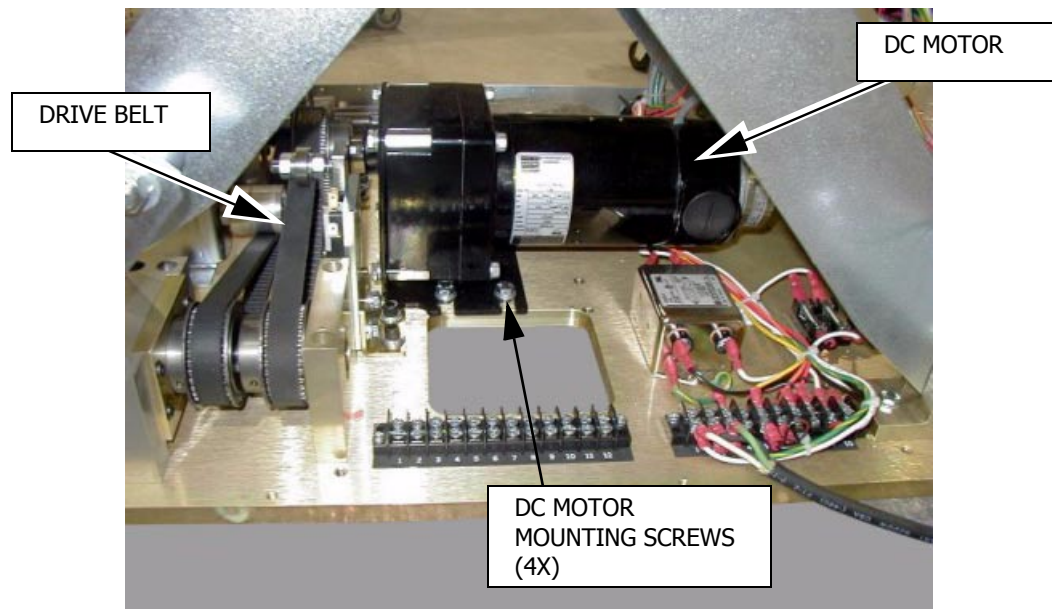

Figure 17. DC Motor Location
4. Remove four (4) hex bolts securing the DC Motor to Table Base Plate (see Figure 17).
7. Install, but do not tighten, four (4) hex bolts securing DC Motor to the Table Base Plate.
4. Remove four (4) hex bolts securing the DC Motor to the Table Base Plate (see Figure 17).
5. Remove four (4) hex bolts securing the DC Motor to the Table Base Plate (see Figure 17).
10. Mount DC Motor to Table Base Plate using four (4) hex bolts.